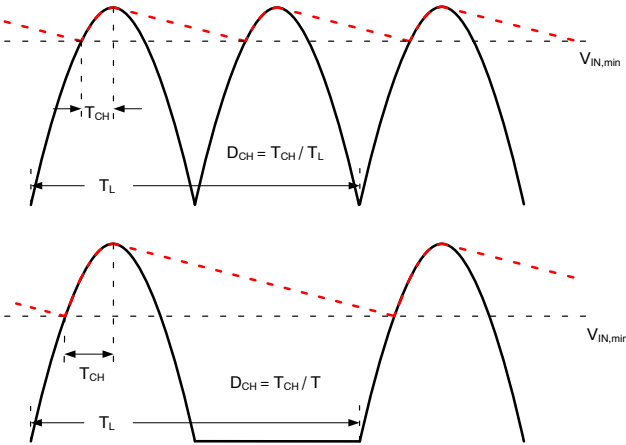

Figure 13. Bridge Rectifier and Bulk Capacitor Voltage Waveform
The DC link capacitor is selected by rectification type and input voltage range. For full-wave rectification, it is typical to select the DC link capacitor as 2 – 3 μ F per watt of input power for universal input range (85 – 264 V_{AC}) and 1 μ F per watt of input power for European input range (195 – 264 V_{AC}). DC link capacitance of half-wave rectification is twice full-wave rectification: 4 – 6 μ F per watt of input power for universal input range (85 – 264 V_{AC}) and 2 μ F per watt of input power for European input range (195 – 264 V_{AC}). Figure 13 shows the input voltage waveform of full-wave and half-wave rectification.
where D_{CH} is the DC link capacitor charging duty ratio defined, as shown in Figure 13; which is typically about 0.15 for full-wave rectification and about 0.3 for half-wave rectification. equations 2 and 3 are minimum link voltage of full-wave and half-wave rectification, respectively, and equation (4) is maximum link voltage.